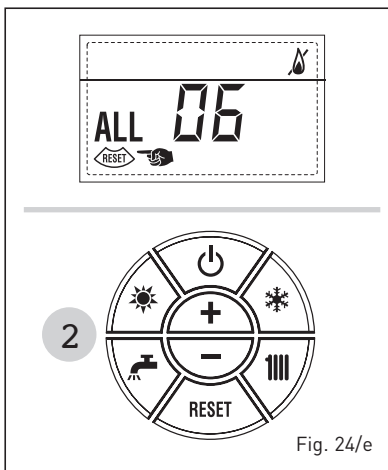

Fig. 24/e
- SAFETY THERMOSTAT ANOMALY ALARM 07 (fig. 24/f)